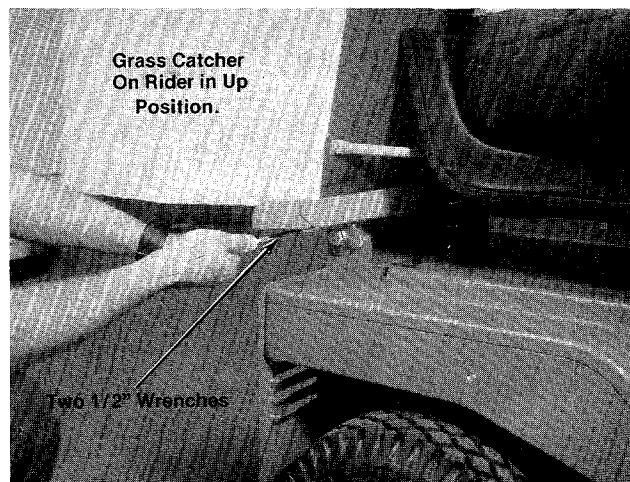

FIGURE 15.
9. Lift the grass catcher all the way up. Have someone hold grass catcher up or block up. Then with two 1/2" wrenches tighten hinge bracket bolts securely. See figures 15 and 16.